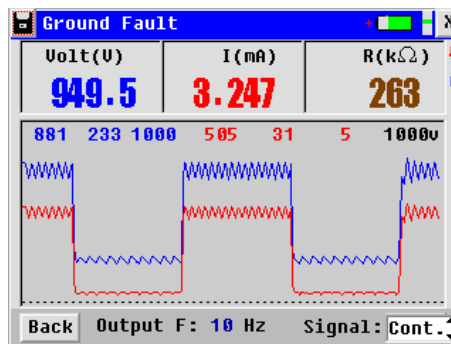

Fig 2.5
IMPORTANT: Please do the reference setting only AFTER signal generator is connected with the DC circuit and injects signal properly (in the last screen like Fig 2.5).
- 2) Before setting, make sure to set signal as “Continue” in signal generator (Fig 2.5).